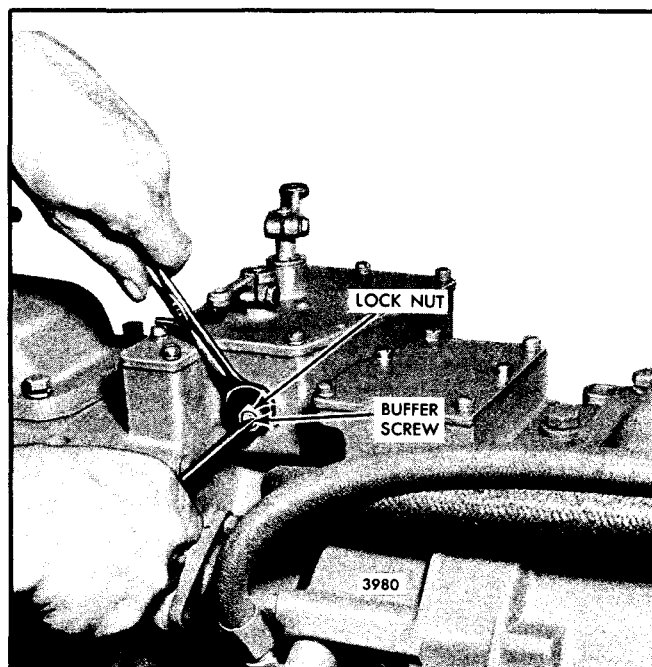

Fig. 10 - Adjusting Buffer Screw
2. Back out the buffer screw (Fig. 10) until it extends approximately 5/8" from the lock nut.
1. With the engine running at normal operating temperature, turn the buffer screw in so it contacts the differential lever as lightly as possible and still eliminates the engine roll (Fig. 10).